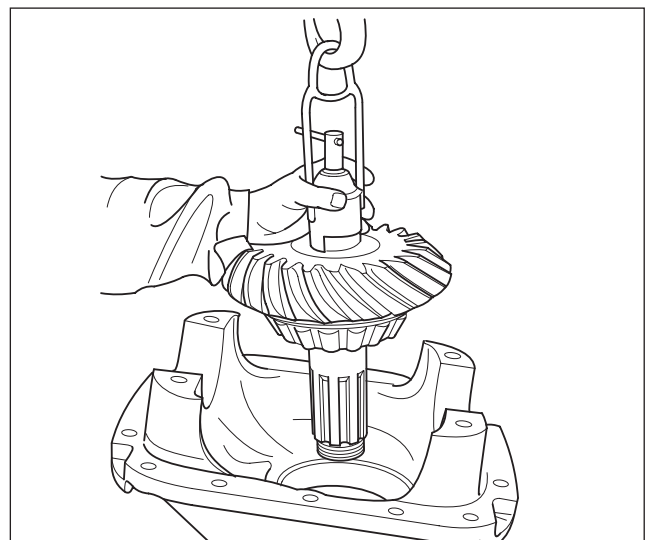

Fig. 2.51
8. Insert pinion into carrier using service tool CT17. (Fig. 2.51)